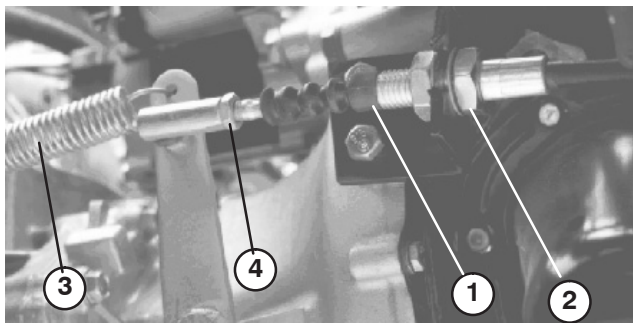

Figure 62
1. Loosen the jam nuts securing the clutch cable to the bracket on the bell housing (Fig. 62).